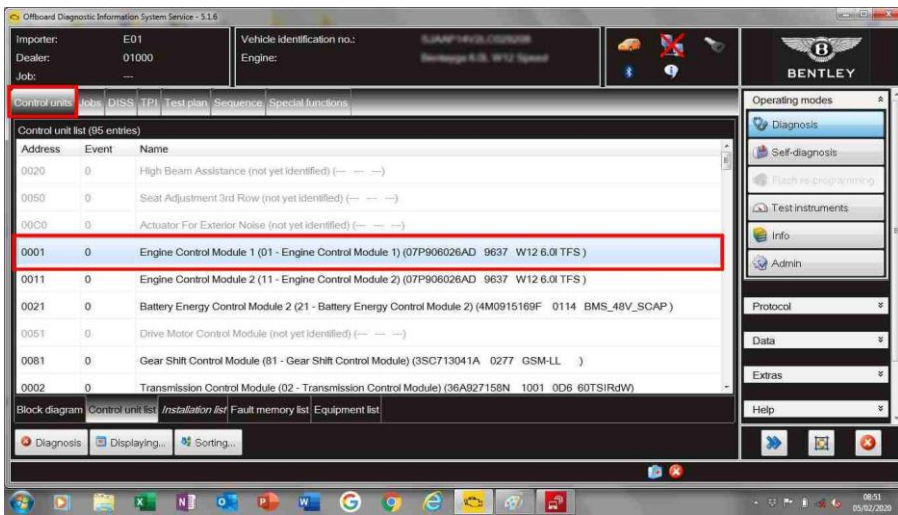

Figure 1
- Select "Control units" and then "Engine Control Module 1 (01 – Engine Control Module 1)" – Figure 1.